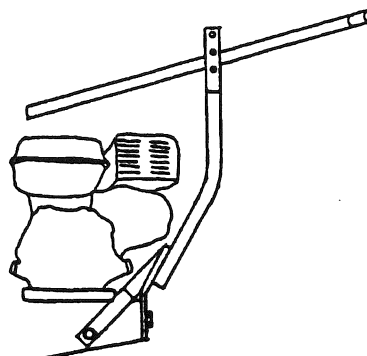

fig. 2
5. If the handle bar doesn't rest well in the brace while in the front position (fig. 2, pg. 6), pivot the handle out of the brace, loosen the brace, put the handle bar back in the brace and retighten.